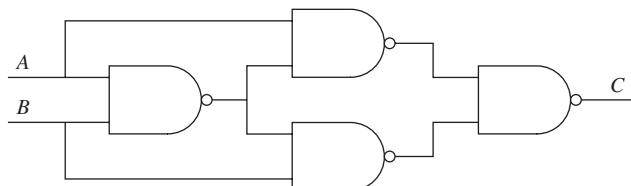

FIGURE P10.57 Logic circuit constructed with NAND and NOR.
- 10.57 (A)** Find the truth table for the logic circuit shown in Figure P10.57.